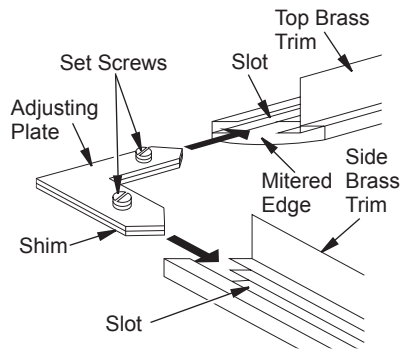

Figure 15 - Assembling Brass Trim
- Align shim under adjusting plate as shown in Figure 15.
- Slide one end of adjusting plate/shim in slot on mitered edge of top brass trim (see Figure 15).
- Slide other end of adjusting plate/shim in slot on mitered edge of side brass trim (see Figure 15).